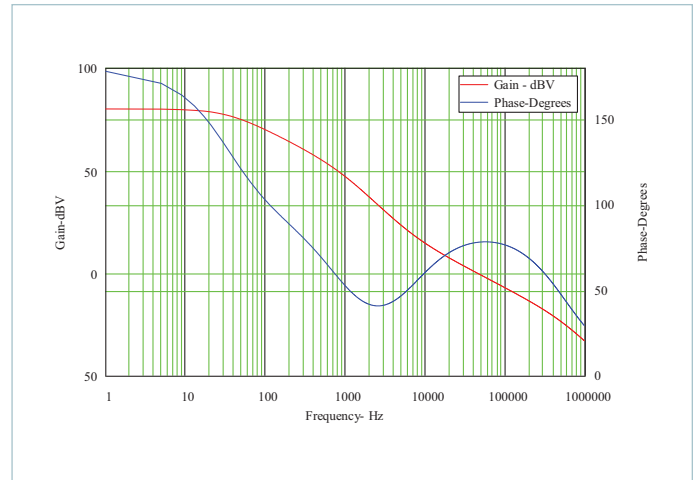

Figure 58 — PI354x-00 Output-Input Gain/Phase
The transfer function of the error amplifier and compensator (also known as the Input To Control transfer function) reveals the response of a Type II amplifier with a low frequency pole determined by Equation (7), a zero which sets the mid-band gain determined by Equation (8) and a high frequency pole determined by Equation (9). Figure 58 shows the calculated Input To Control transfer function. Multiplying Equation (3) by Equation (6); described by Equation (10), results in the total loop gain (also known as the Output To Input transfer function). A graph is shown in Figure 58. The strategy is to set the zero such that the mid-band gain allows a high crossover frequency while providing maximum phase boost at crossover, with proper gain and phase margin.